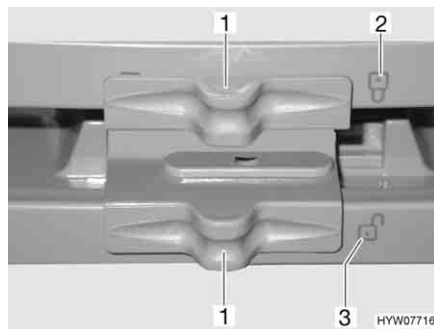

Fig. 191 Locking of the refrigerator door/freezer compartment door (Dometic 7 series with separate freezer compartment)
- Push the lock (Fig. 191,1) to the side, so that the open lock  (Fig. 191,3) is completely visible.
- Push the lock (Fig. 191,1) to the side, so that the closed lock  (Fig. 191,2) is completely visible.